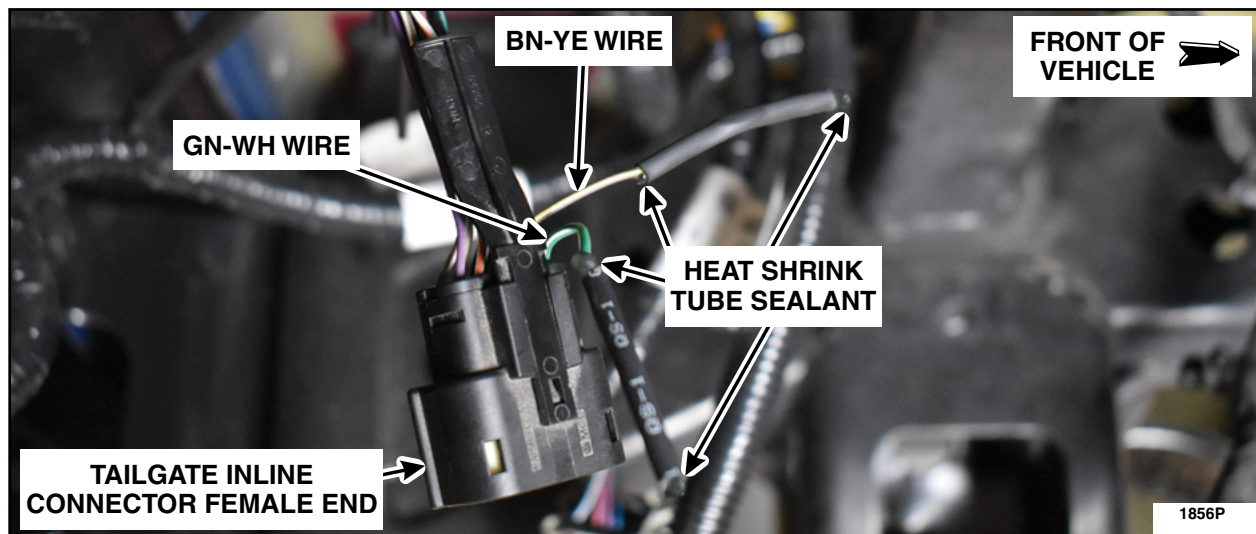

FIGURE 18
21. Install a piece of dual wall heat shrink tube on the GN-WH and BN-YE wires making sure the end of the wire is located in the middle of the tube. Evenly heat up the heat shrink tube until the heat shrink tube sealant bubbles out of both ends. See Figure 18.